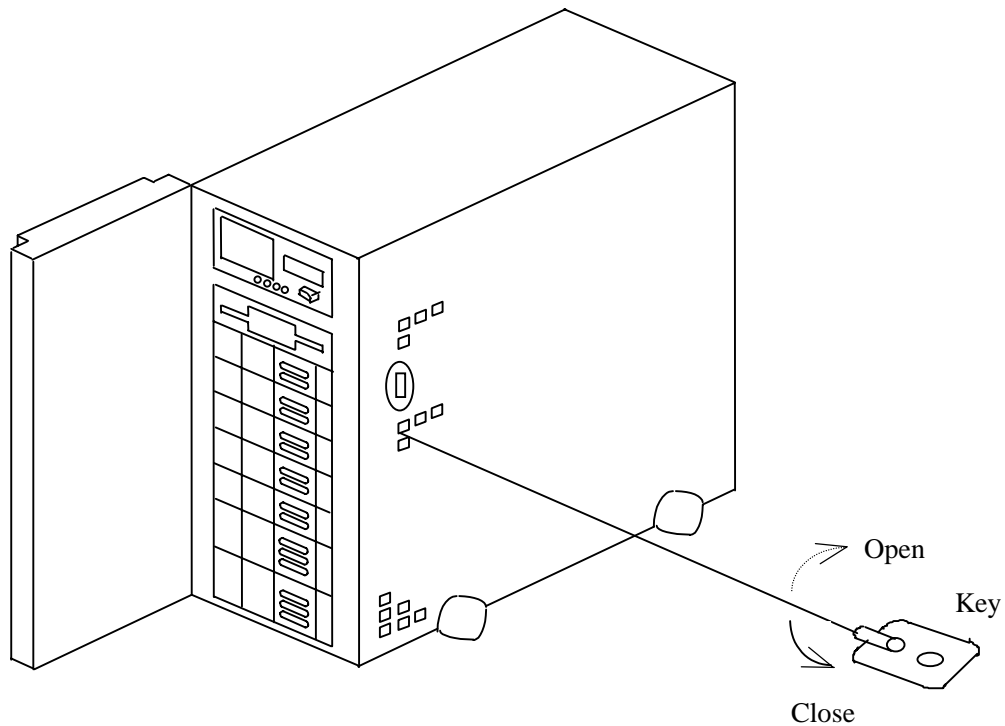

Figure 3.1 Opening/Closing of the Front Cover
(1) Procedures of opening and closing(See Figure 3.1.)